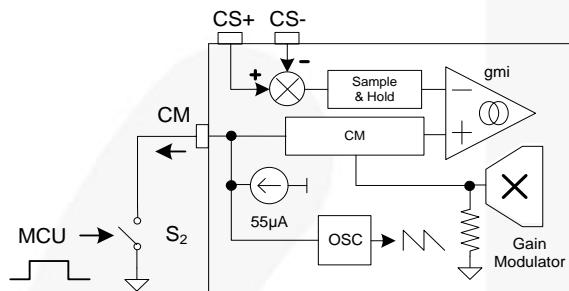
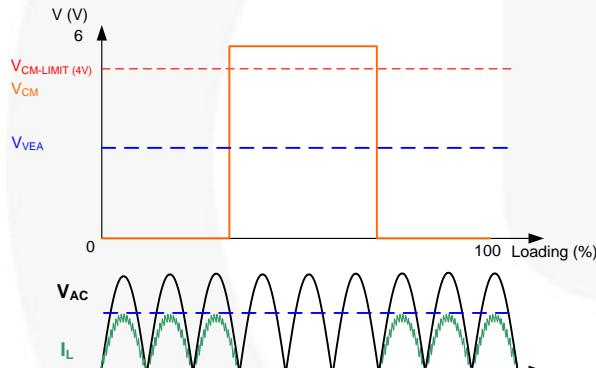

Figure 14. Channel Management by MCU
Figure 15. Channel Management by MCU
To disable the Channel Management (CM) function and control the channels with an external signal from the MCU, the configuration is shown in Figure 14. If $V_{CM} > 4$ V, the channel is disabled. To enable the channel, V_{CM} must be 0 V, as Figure 15 shows.